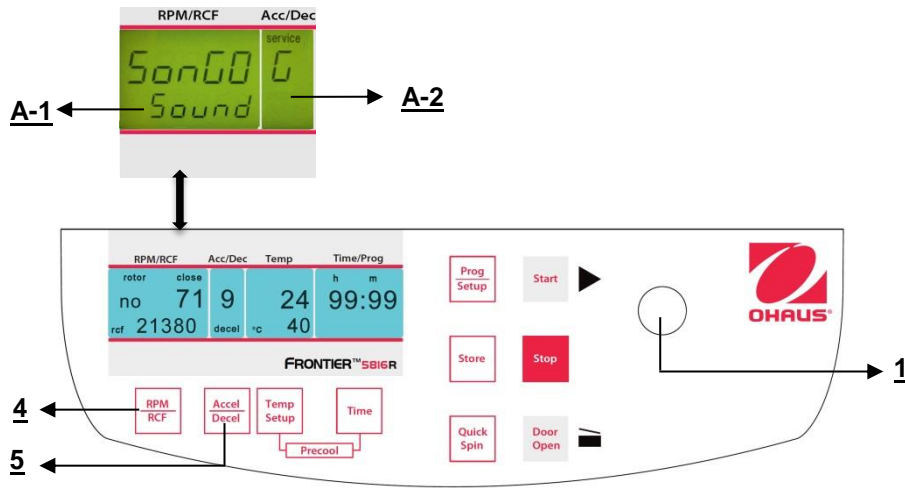

Figure. 34
Proceed as described under point 4.1.1 to enter this program mode and then press the key "Accel/Decel" (5). In the display "Acc/Dec" (A-2) the word "Service" flashes. Now select the letter "G". with the adjusting knob (1). As a result, in the display "RPM | RCF" (A-1), the word "SonGo/Sound" appears. After pressing the key "RPM | RCF" (4), you can select a song with the adjusting knob (1). (See figure 34). After you have stored the settings (see 4.1.1) you can change back to the normal program mode again by switch off the centrifuge for a short while.